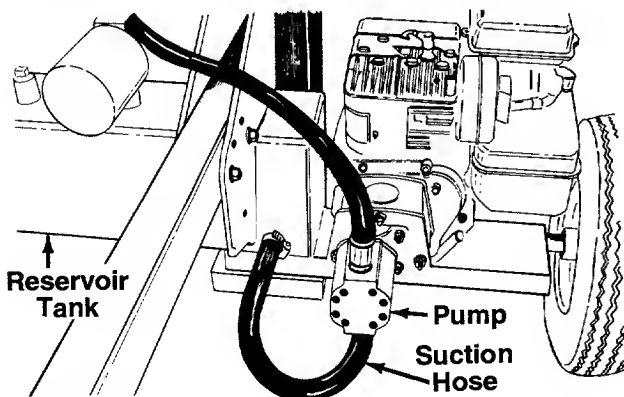

FIGURE 9.
1. The suction hose is attached to the reservoir tank. See figure 9. Loosen the hose clamp on the free end of the hose using a screwdriver.